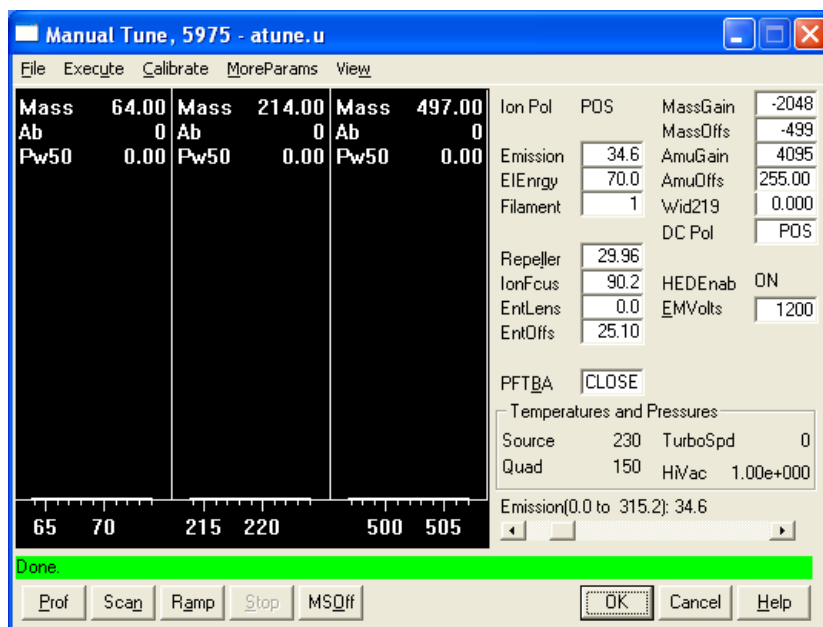

Figure 13 Tune parameters
- 1 In Instrument Control view, select **Edit Tune Parameters** from the Instrument menu (Figure 13).